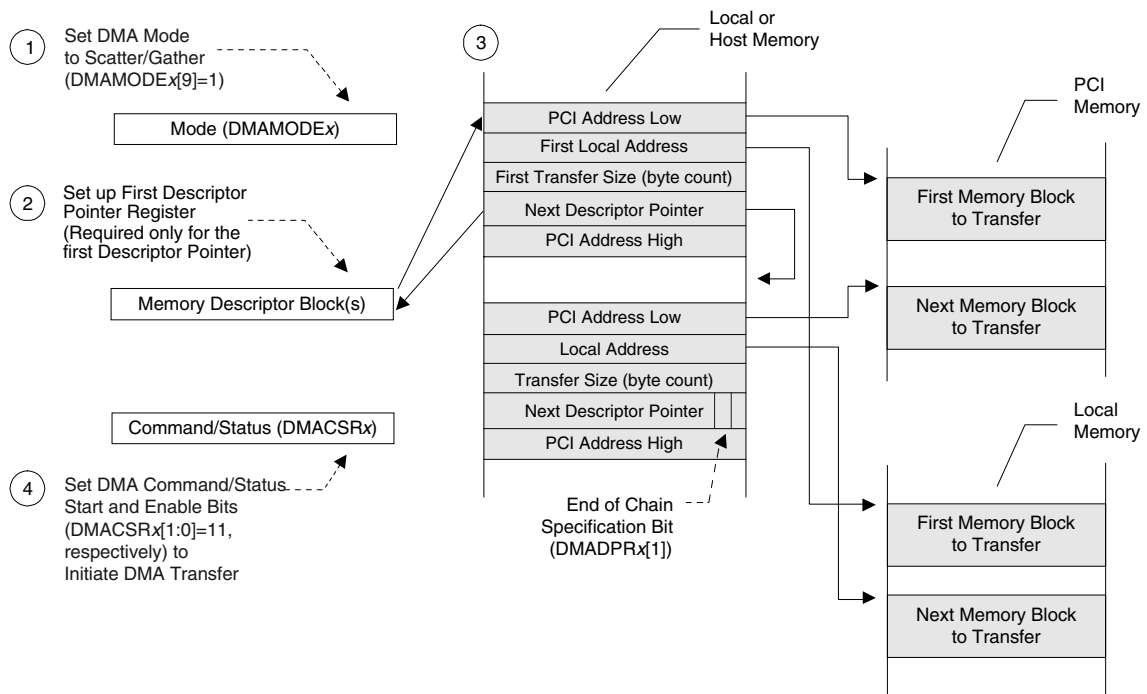

**Figure 3-18. DMA Scatter/Gather Mode Descriptor Initialization
- DMADACx contain(s) a value of 0h. DMAMODEx[18] is set to 1. The PCI 9056 performs a SAC 5-Lword descriptor block load from PCI memory and DMA transfer with DAC on the PCI Bus. (Refer to Figure 3-18.) The DMA descriptor block starting addresses should be 32-byte-aligned.
- DMADACx contain(s) a non-zero value. DMAMODEx[18] is set to 1. The PCI 9056 performs a SAC 5-Lword descriptor block load from PCI memory and DMA transfer with DAC on the PCI Bus. The fifth descriptor overwrites the value of the DMADACx register(s). (Refer to Figure 3-18.) The DMA descriptor block starting addresses should be 32-byte-aligned.